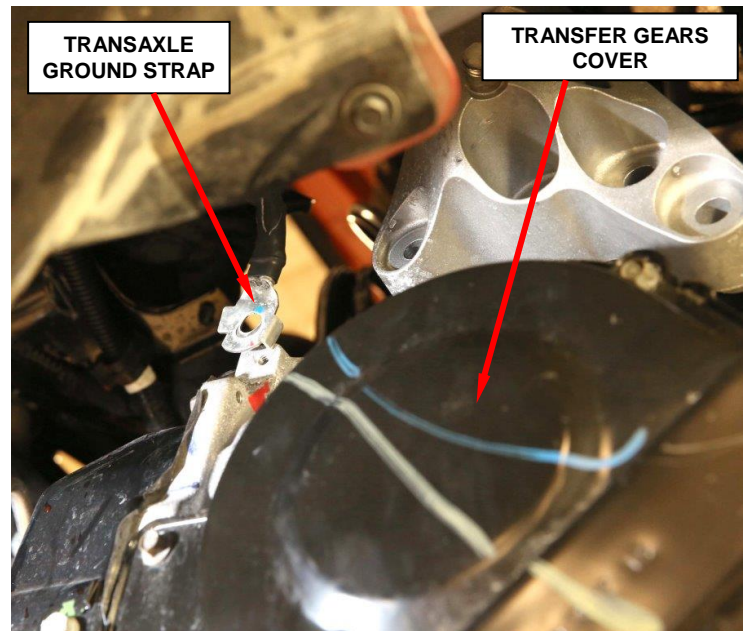

Figure 30 – Transaxle Ground Strap
39. Lower the transaxle slightly and remove the transaxle ground strap (Figure 30).